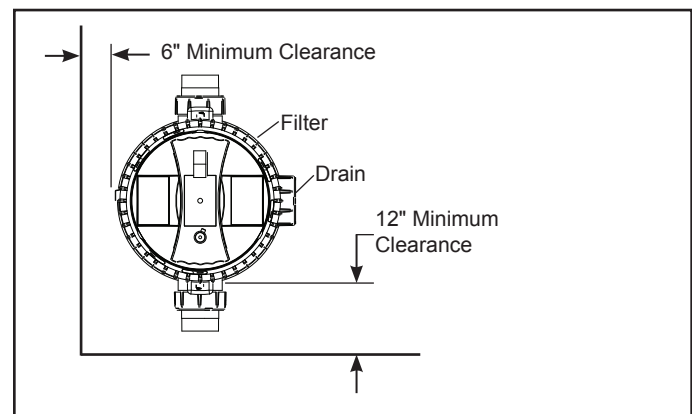

Figure 3. Filter Location - Top View
3. Install electrical controls at least five (5) feet from the filter. This will allow enough room to stand away from the filter during start-up.
4. Allow sufficient clearance around the filter to permit a visual inspection of the clamp ring. See Fig. 3.